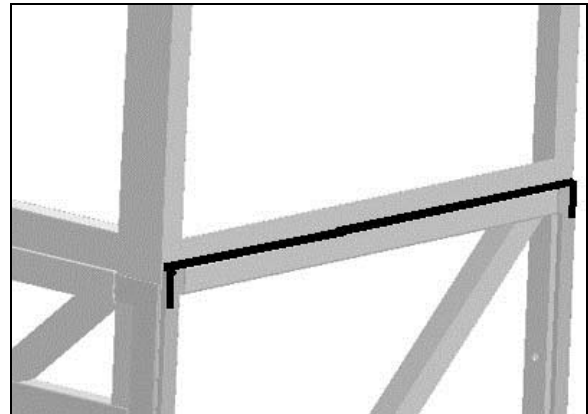

FIGURE 45 : SIDE PANEL INSTALLATION – SIKA 221 OR 252 APPLICATION ON STRUCTURE
5. Inspect the Sika bead shown in FIGURE 45. If it is damaged, remove adhesive residue and apply a new 5mm diameter bead of Sika 221 or 252;